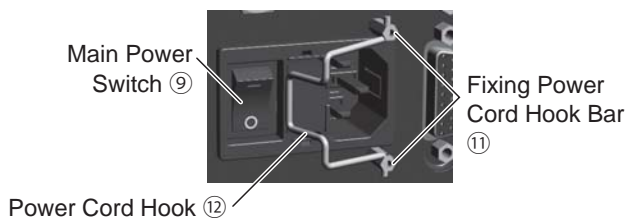

Fig. 9
- Reduce the risk of unintentional starting. Make sure the Main Power Switch ⑨ is in the OFF position before connecting the CONTROLLER or plugging the system in.
- (1) Install the Power Cord Hook ⑫ to the Fixing Power Cord Hook Bar ⑪ (Refer to Fig. 9).